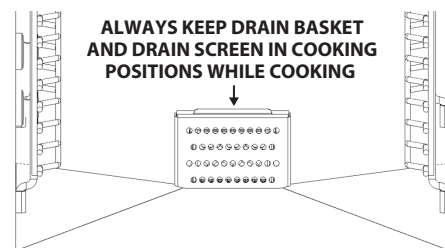

Figure 3
6. Rinse and re-install the Screen Basket and Drain Screen (see Figure 3).